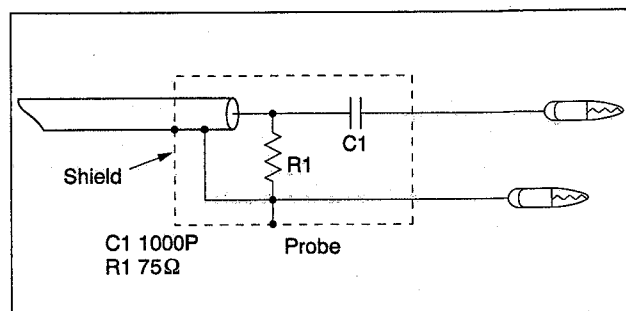

Fig. 3-10-1 Sweeper probe
- (1) Use a sweeper probe shown in Fig. 3-10-1.
- (2) Supply 300 Hz L-only modulated IF signal to IF terminal of U/V tuner (front end).
- (3) Connect an oscilloscope to IC101 pin 29.
- (4) Adjust R107 for minimum output level.
- (5) Supply 5 kHz L-only modulated IF signal to IF terminal of U/V tuner (front end).
- (6) Connect an oscilloscope to IC101 pin 29.
- (7) Adjust R109 for minimum output level.